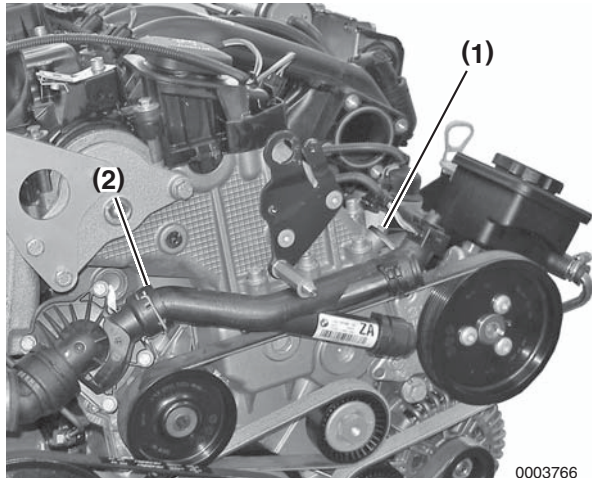

Figure 8-12
4. Remove coolant pipe retaining bolt (**Figure 8-12, (1)**).
5. Disconnect coolant pipe (**Figure 8-12, (2)**) from thermostat housing.